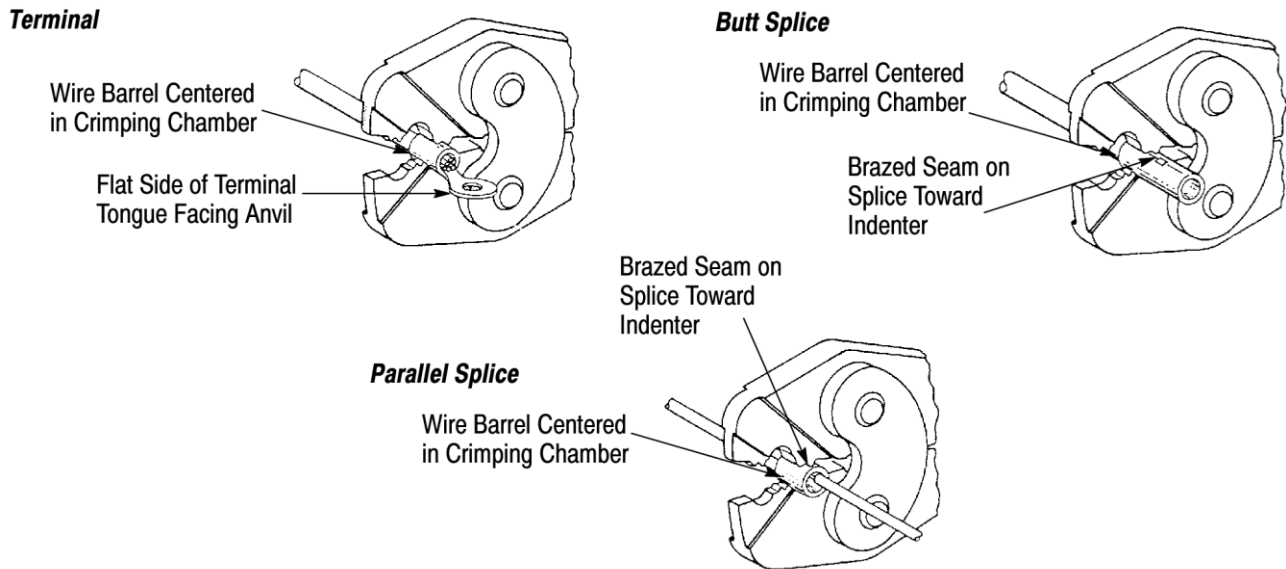

Figure 3
2. Center the terminal or splice wire barrel in the appropriate crimping chamber. For terminals, make sure that the flat side of the tongue faces the anvil or the nest; for splices, make sure that the brazed seam (when visible) is toward the indenter or, the nest. See Figure 3.